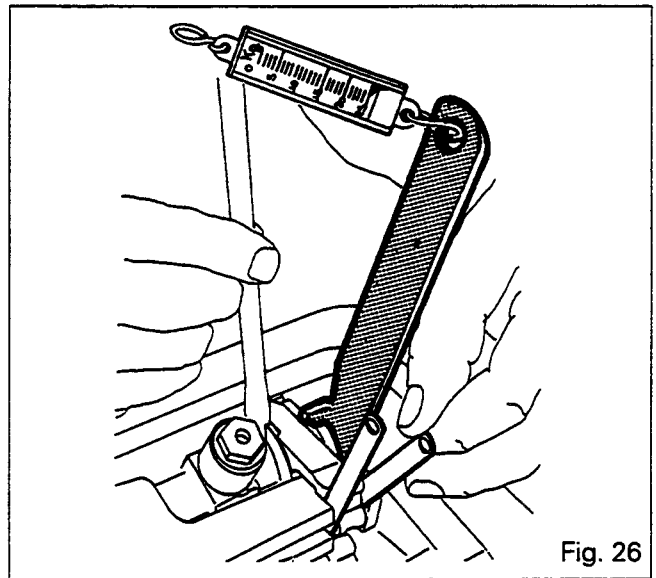

Fig. 26
- 99. Tighten the castellated nut (**21**) to a torque of 50 Nm using the special wrench, 3615334 M01, and a spring scale (Fig. 26).